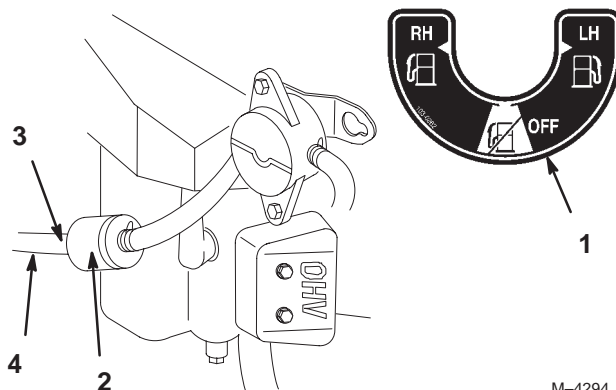

Figure 37
8. Install a new filter and move the hose clamps close to the filter (Fig. 37).
2. Close the fuel shut-off valve (Fig. 37).
3. Loosen the hose clamp at the fuel filter and slide it up the fuel line away from the fuel filter (Fig. 37).
4. Pull the fuel line off of the fuel filter (Fig. 37).
5. Open the fuel shut-off valve for the left and right tanks. Allow gasoline to drain into a gas can or drain pan (Fig. 37).
6. Install the fuel line onto the fuel filter. Slide the hose clamp close to the fuel filter to secure the fuel line (Fig. 37).